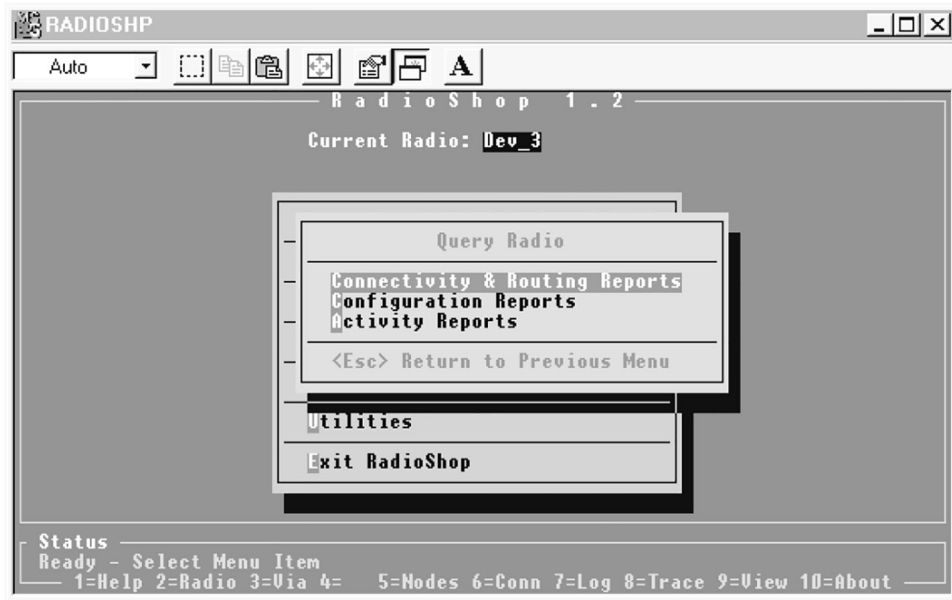

Figure 9. The *Query Radio* screen.
- (c) Press the <Q> key to select the **Query Radio** option. Then, press the <Enter> key to open the *Query Radio* screen. See Figure 9.